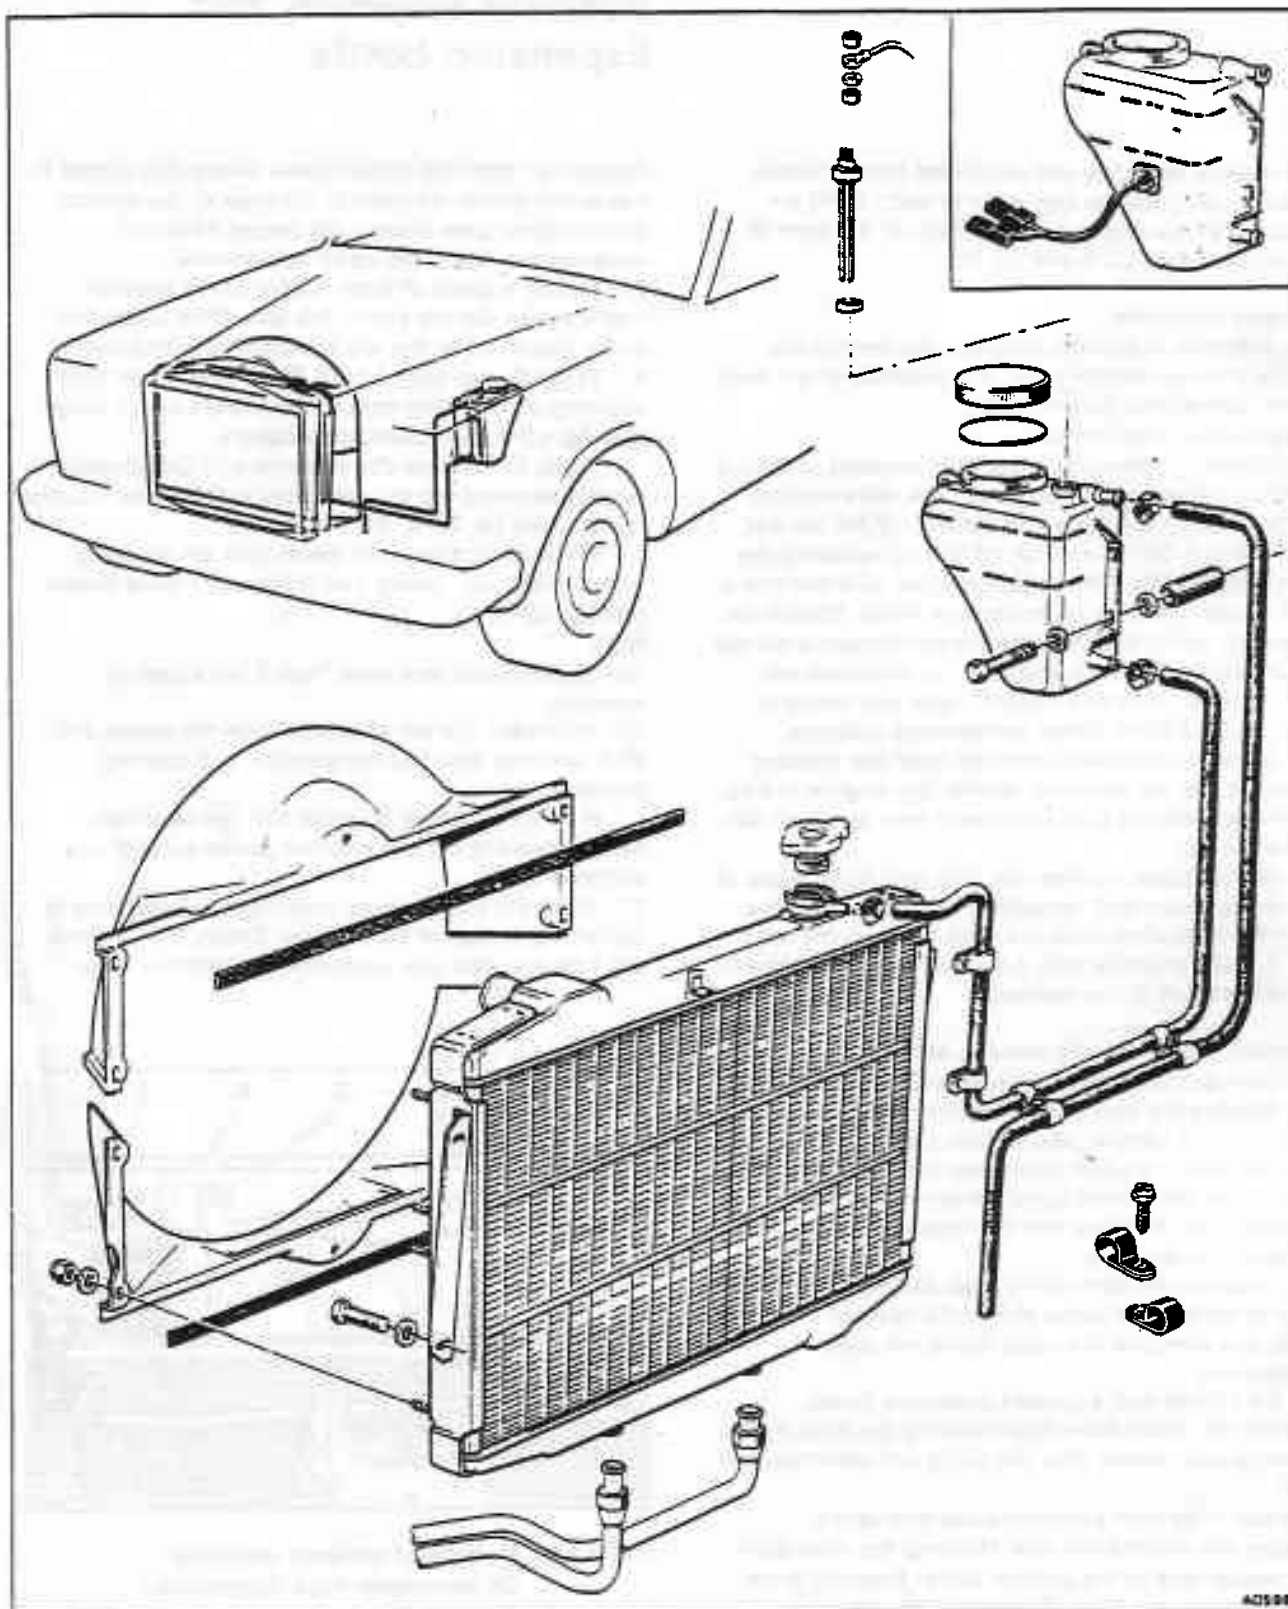

Fig. L2-2 Radiator and expansion bottle All cars other than Corniche
The radiator assembly and expansion bottle (header tank only on Corniche cars prior to mid 1984) are mounted in the engine compartment, at the front of the car (see figs. L2-2 and L2-3).
- (see fig. L2-2). Collect the washers.